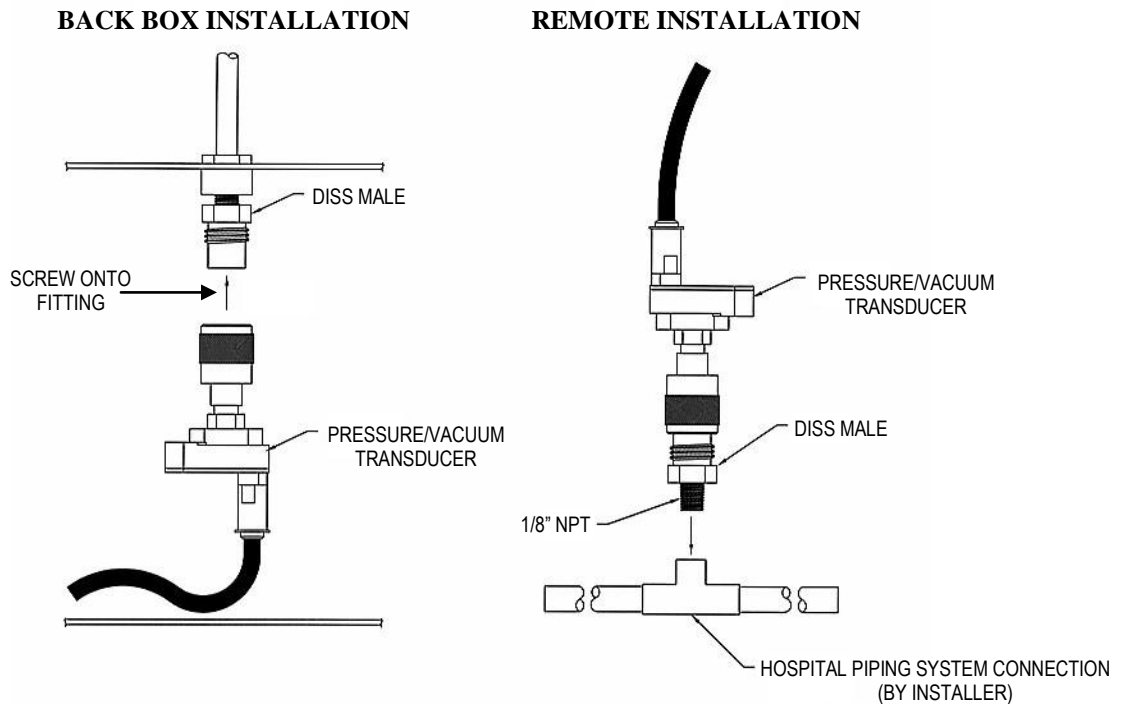

Figure 14 – Transducer Installation
4.3.1 Installing the Pressure or Vacuum Transducers inside the Back Box. For each Module, assemble the transducer to the correctly labeled male DISS fitting (see Figure 14). Repeat this step for each Transducer. Refer to Section 4.13.0 for wiring instructions.
4.3.2 Installing the Pressure or Vacuum Transducers outside the Back Box (see Figure 14). Install a 1/8-27 NPT connection in the hospital piping system at intended location of Transducers (install per NFPA 99). Screw a male DISS fitting into the above installed connector.
Assemble the transducer to the male DISS fitting (see Figure 14). Repeat this step for each Transducer. Refer to Section 4.13.0 for wiring instructions.